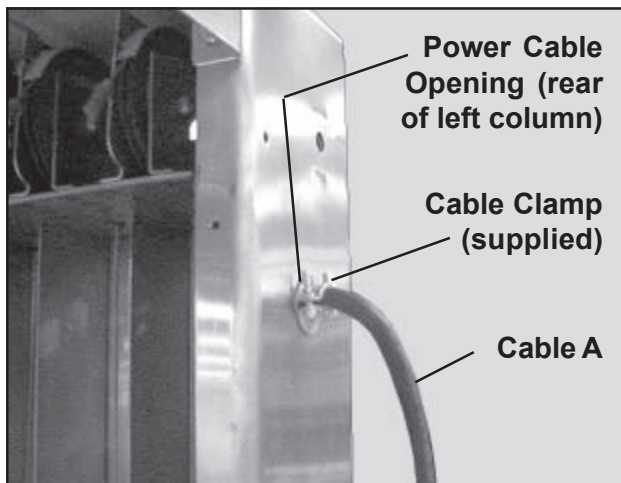

Figure 42. Cable A Mounted to Power Cable Opening
5. With a screwdriver, loosen both screws on the outside of the cable clamp (Figure 42).